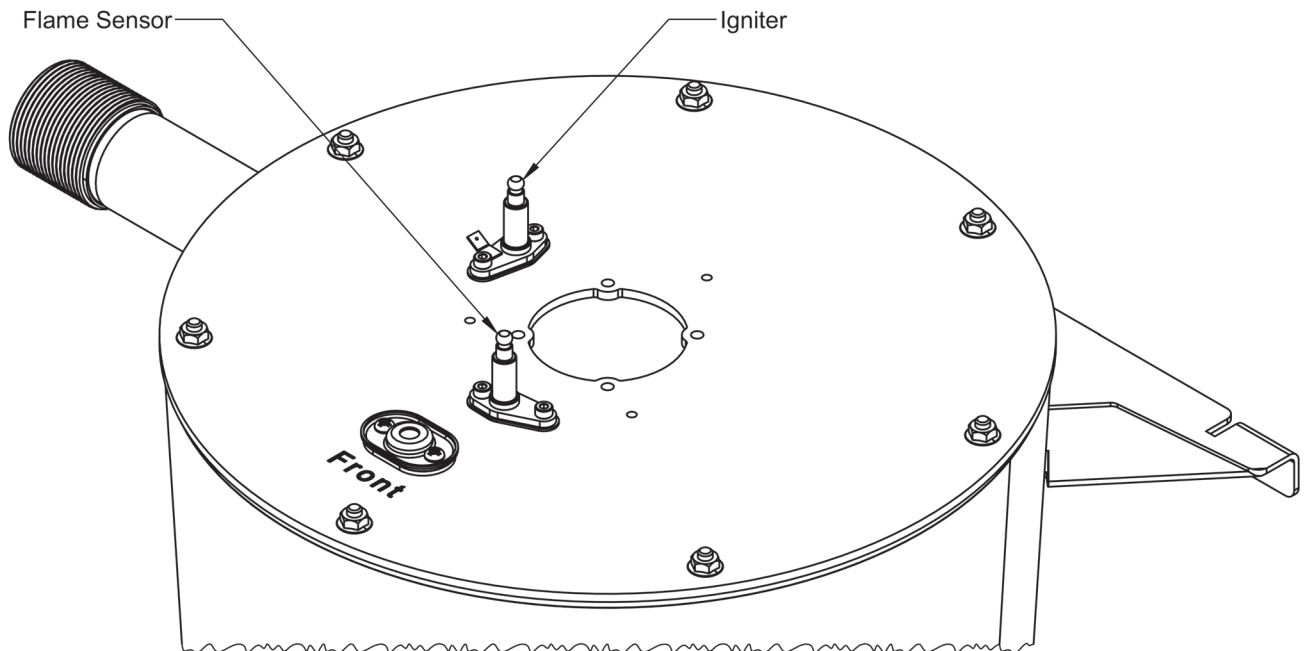

Figure 13.2: Igniter and Flame Sensor Location
- i. **Unplug the igniter, ground, and flame sensor wires** from the ignition electrode and the flame sensor (Figure 13.2).
- j. **Use an 8mm wrench to remove** blower from fire door (Figure 13.2).
- k. **Use a 10 mm wrench to remove** fire door to the heat exchanger (Figure 13.2). Carefully remove the door from the heat exchanger, being careful not to damage the refractory insulation on the inside of the door (see Refractory Warning on page 130) or the electrodes.